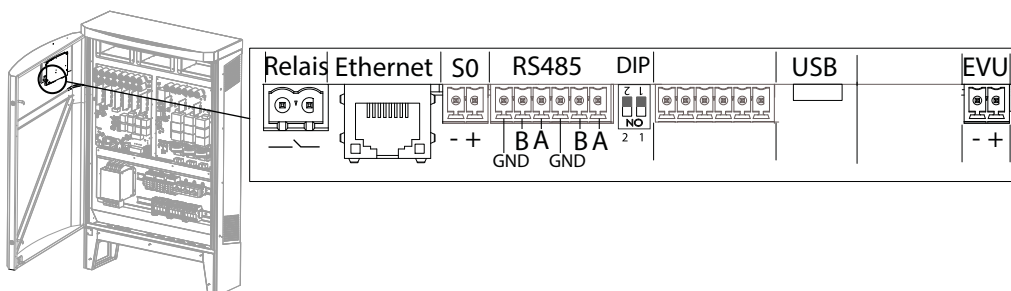

Figure 16: Connection area: connecting the interfaces
3. Connect the connection cables to the corresponding connection terminals (see Figure 16 on page 22).